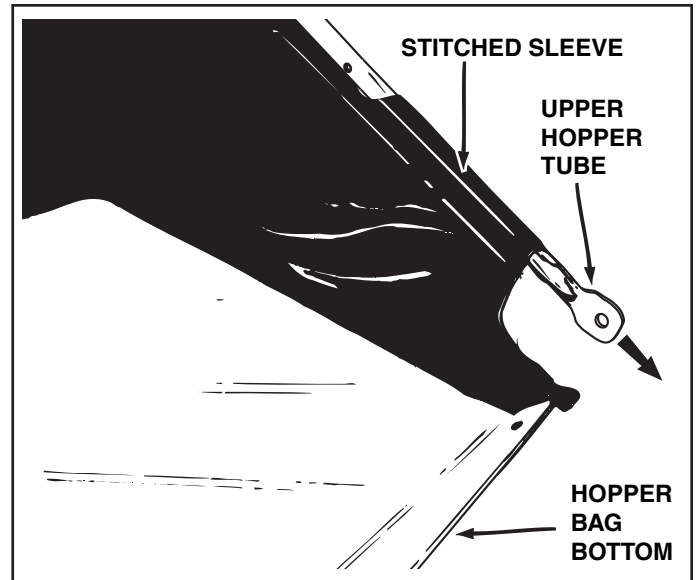

FIGURE 12
- Insert the ends of the assembled upper hopper tubes down through the stitched sleeves in the sides of the hopper bag and then slide the tubes back underneath the wind screen. See figure 12.